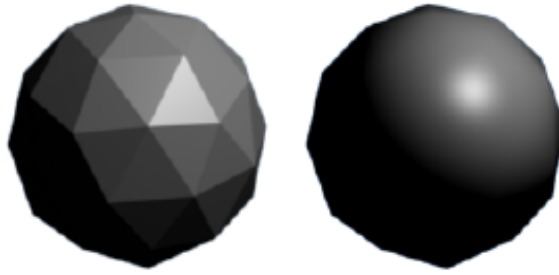

Figure 8.1.: On the left, a structure is represented with a small number of triangles. On the right, a smooth representation of the same figure.
The Photonic Professional (GT) is compatible with any CAD application exporting 3D models to the Standard Tessellation Language (STL) file format. DeScribe converts STL files to the General Writing Language (GWL) file format, which can then be loaded into NanoWrite for printing. The STL file format defines the closed surface geometry of a three dimensional solid object. During the export to STL, the original 3D solid model is approximated with a triangular surface tessellation (Fig. 8.1). Although many CAD applications can export to STL, there is significant variation in the quality of the surface model generated during the export. A good model without holes or self-intersections is essential for further processing. We have found the following commercial CAD applications to be capable of generating STL output of sufficient quality: AutoCAD, Autodesk Inventor, PTC Creo, and SolidWorks. Alternatively, STL files can be created with 123D Autodesk1 which is available for download free-of-charge and comes with a collection of online video tutorials.2 STL files of varying quality can also be downloaded from the Internet. Some common defects in STL files can be repaired with the open-source software Meshlab.3